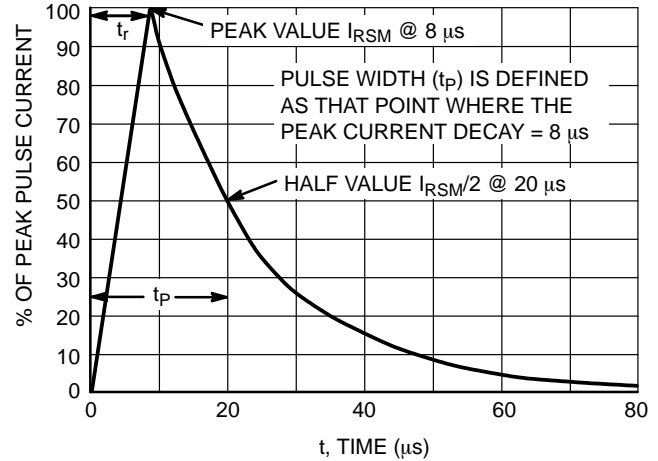

Figure 2.  $8 \times 20 \mu s$  Pulse Waveform
- Peak Power: 150 W @ 20  $\mu$ s (Unidirectional), per Figure 2
3. Non-repetitive pulse per Figure 2.